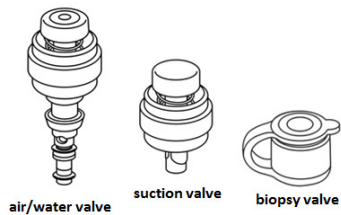

Figure 2
12. If using the 3-piece kit (See Figure 2), attach the **BullDog® Biopsy Valve**.